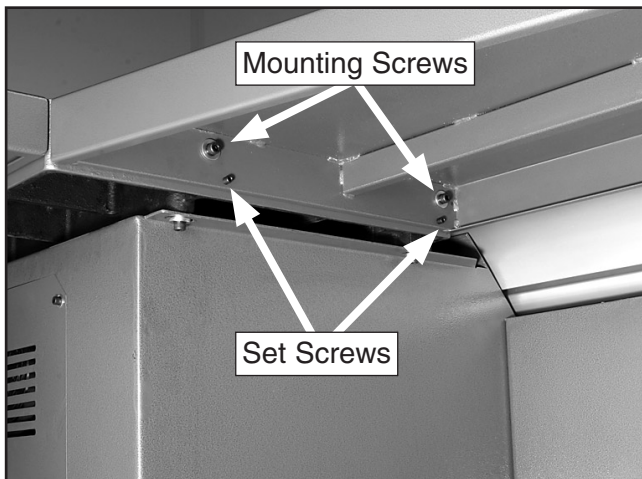

Figure 20. Small extension wing attached.
2. Attach the small extension wing with two M8-1.25 x 25 cap screws, lock washers, and flat washers as shown in **Figure 20**.